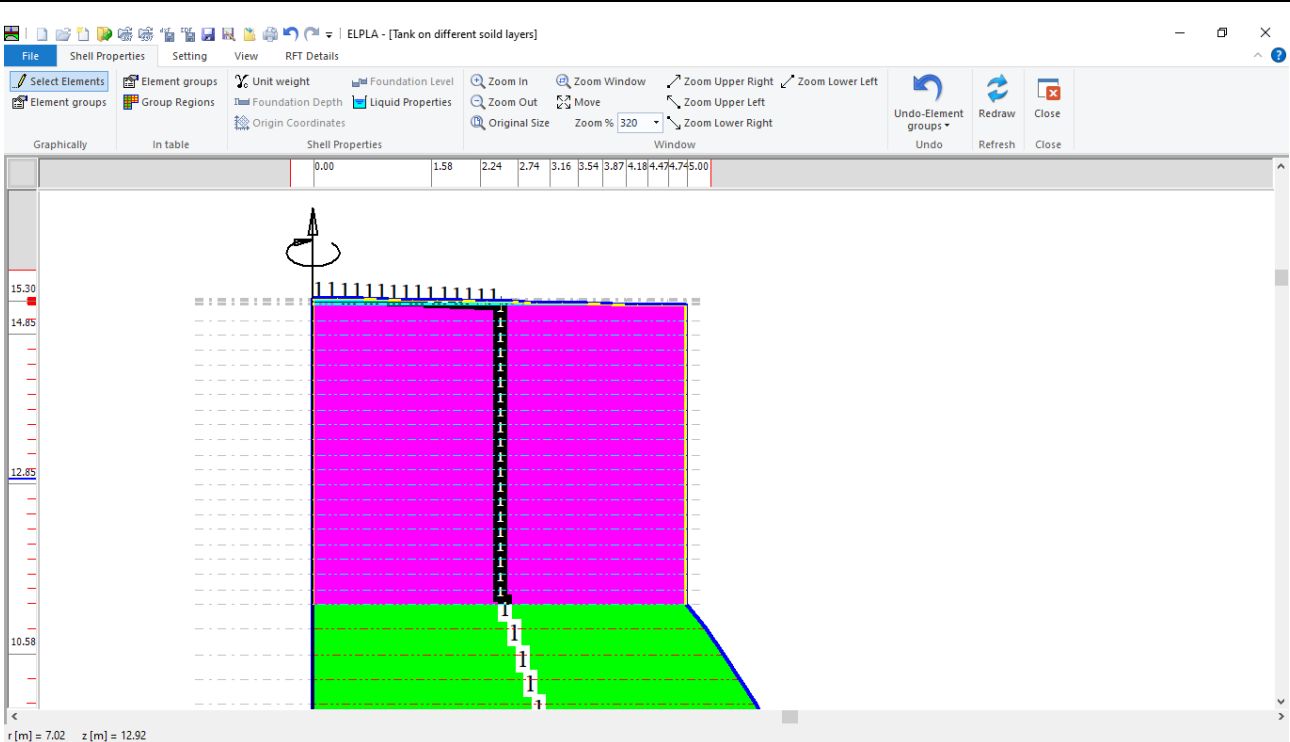

Figure 12.19 Selecting the elements that include the container roof
- Select the elements that include the container roof as Figure 12.19